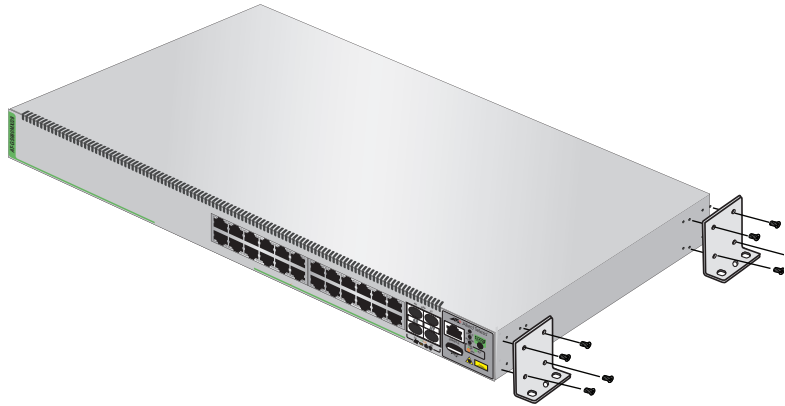
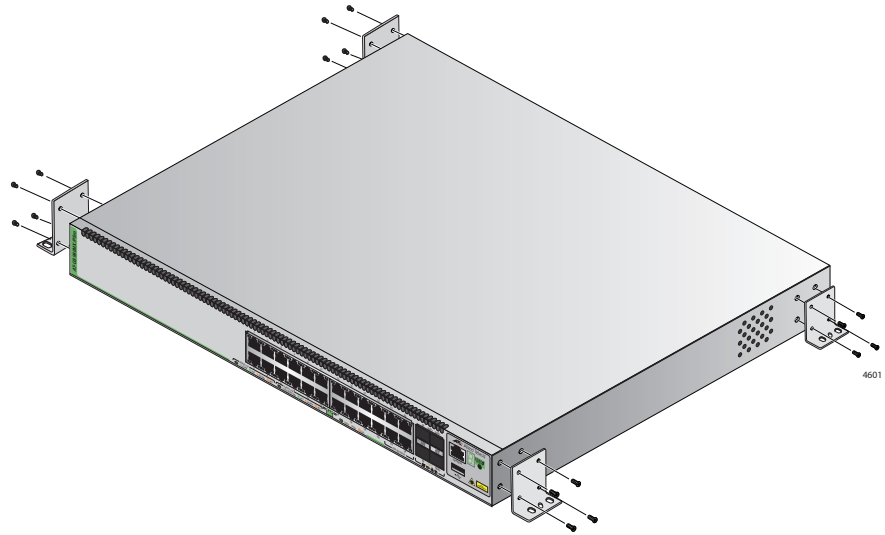

Figure 58. Installing Two Brackets on the GS980MX/28 or GS980MX/28PSm Switch
Figure 59. Installing Four Brackets on the GS980MX/10HSm, GS980MX/18HSm, GS980MX/52 or GS980MX/52PSm Switch
2. For the GS980MX/28 and GS980MX/52 switches, install two wall/equipment rack brackets to the sides of the unit with the eight M4x6mm screws included with the switch. Refer to Figure 58 on page 102. For the GS980MX/10HSm, GS980MX/18HSm, GS980MX/28PSm and GS980MX/52PSm switches, install four wall/equipment rack brackets to the sides of the unit with the 16 M4x6mm screws included with the switch. Refer to Figure 59 on page 103.
2. For the GS980MX/28 or GS980MX/28PSm switch, install two wall/equipment rack brackets to the sides of the unit with the eight M4x6mm screws included with the switch. Refer to Figure 58 on page 102. For the GS980MX/10HSm, GS980MX/18HSm, GS980MX/52 or GS980MX/52PSm switch, install four wall/equipment rack brackets to the sides of the unit with the 16 M4x6mm screws included with the switch. Refer to Figure 59 on page 103.